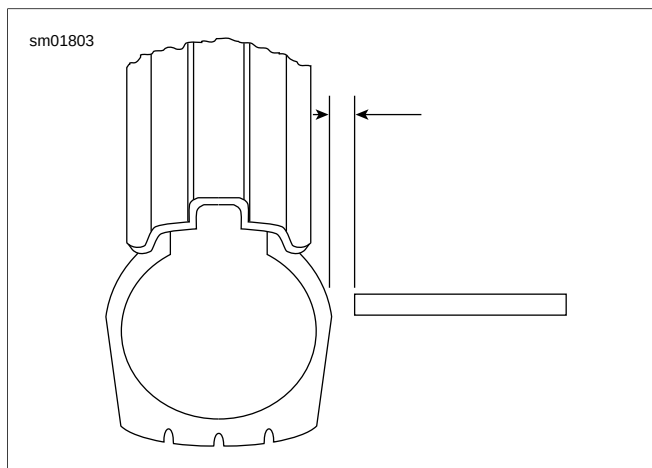

Figure 2-75. Checking Tire Lateral Runout
2. See Figure 2-75. Turn the wheel on the axle and measure tire lateral runout from a fixed point to a smooth area on the tire sidewall. Avoid measuring on raised letters or vents.